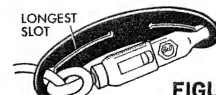

FIGURE 14
To prevent disconnection of mower cord from extension cord when mowing, (1) make a knot as shown in Figure 13, or (2) use one of the Cord Connectors shown in Figure 14.
- (2) Use one of the plug-receptacle Cord Connectors shown in Figure 14.